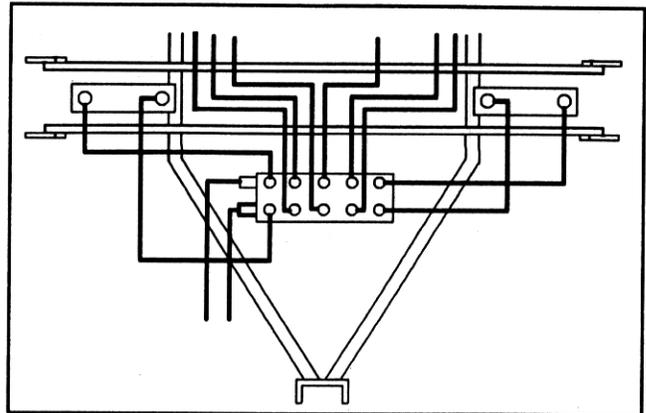

Figure 4
4. Connect new short and long hydraulic hoses to fittings on control valve and cylinder, as shown in figure 4.